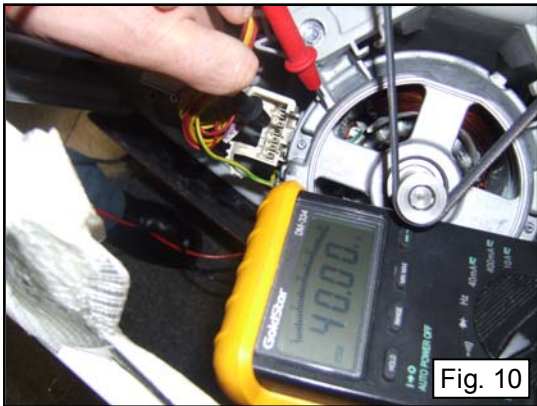

Fig. 10
- 3) Then check for any windings / earthed parts or parts with poor earthing insulation. Use a tester with a minimum capacity of 40 M Ω : between each individual terminal and the motor casing, read ∞ (**fig. 10**)
Detach the connector from the motor and measure between the terminals and the motor casing. -(see fig. 10) -